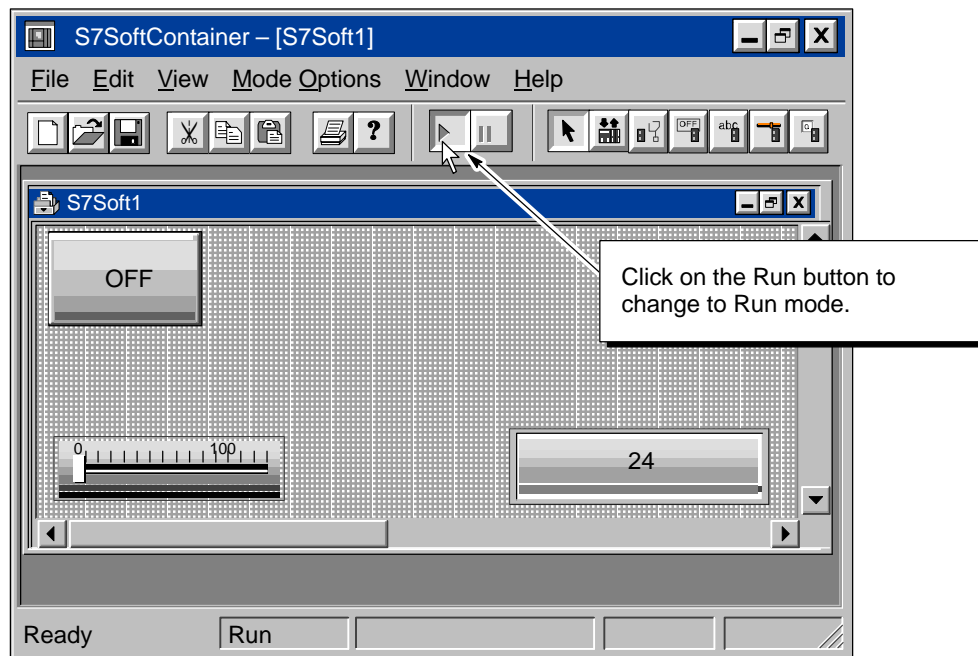

Figure 6-5 Changing the Container to Run Mode
2. Click on the Run button to change from Design mode to Run mode (Figure 6-5). The status bar shows that the container is in Run mode. Notice that the Data control becomes invisible in Run mode.